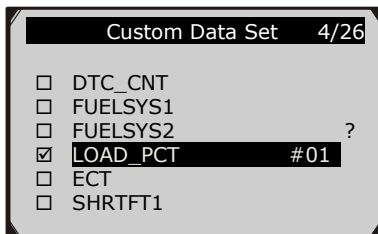

Figure 5.17
- 3) Use the **RIGHT** button to select/deselect data parameters. Selected parameters are marked with solid squares. Press the **OK** button to confirm. (Figure 5.17)